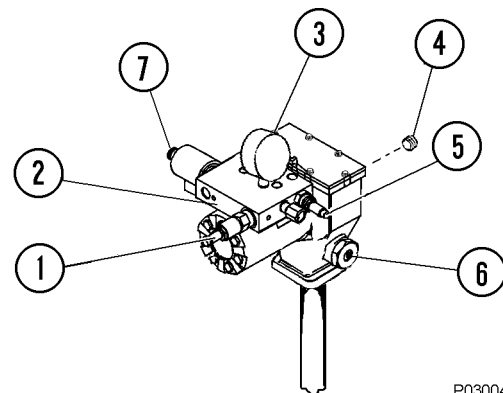

FIGURE 3-5. PUMP CONTROLS
2. To purge air from the main supply line, remove the main supply line at the pump outlet port (6, Figure 3-5) and connect an external grease supply to the line.
The pump housing must be filled to the proper level with SAE 10W-30 motor oil. Oil level should be checked at 1000 hour intervals. To add oil, remove pipe plug (4, Figure 3-5) and fill housing to bottom of plug hole.
2. Loosen the locknut on the pressure control (1, Figure 3-5) by turning the nut counterclockwise.
4. With the pump stalled against pressure, turn the pressure control valve stem clockwise until 325 to 350 psi (2 240 to 2 413 kPa) is attained on the manifold pressure gauge (3).
*Note: The flow control valve (5) is factory adjusted to 2.5 GPM (9.5 L/min.). Do not change this setting.*